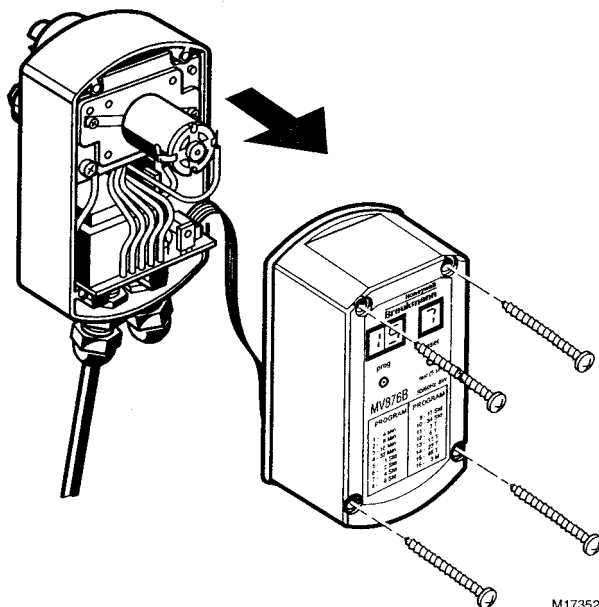

Fig. 8. Removing the MV876 cover.
1. Unscrew the four housing screws and set them aside. (see Fig. 8).
2. Remove the MV876 cover (see Fig. 8).